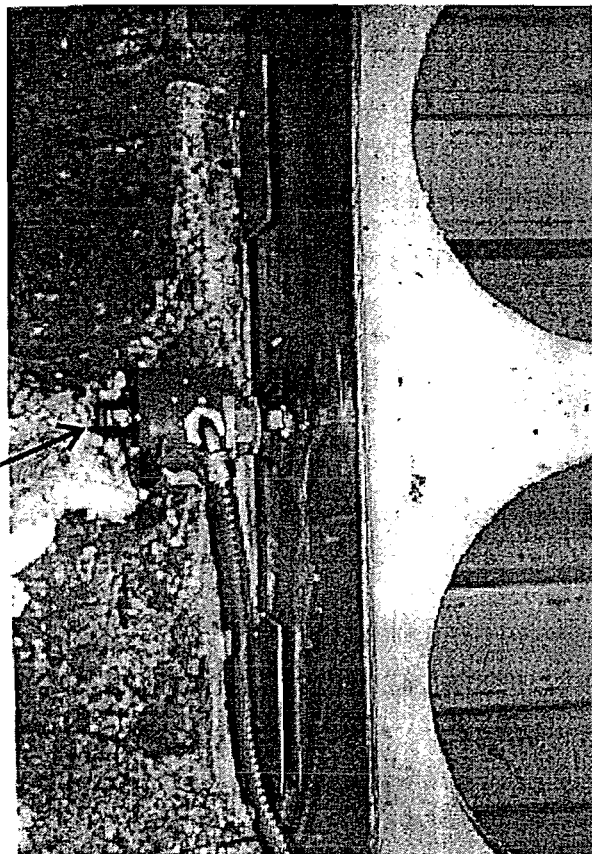

Figure 2.4.2: Heating Tank Thermostat
2.4.3 Verify that the water heater thermostat is set to the blue marker temperature (Figure 2.4.2). Disregard any other markings.